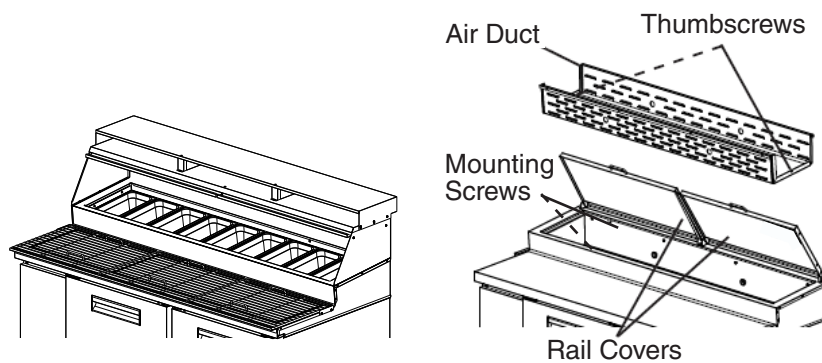

Fig. 34
- (2) Wipe the air duct panel (top and bottom), rail area (sides and top), and surrounding mounting area with mild soap or detergent and warm water. Clean any rust colored spots using a non-abrasive cleanser. After cleaning, wipe the air duct panel with water.
- (3) Replace and secure the air duct panel in its correct position. Be sure the thumbscrews and mounting screws are installed and tightened. **NOTICE! Air duct panels must be replaced in the proper location and orientation. See Fig. 34. Otherwise, cooling performance will be reduced.**